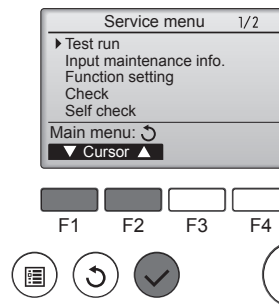

Fig. 9-2
- Select "Test run" from the Service menu, and press the [SELECT] button. (Fig. 9-2)